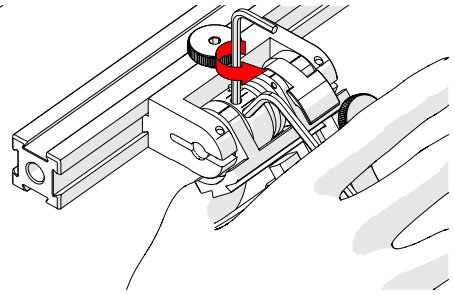

Fig. 116 - Press 3 mm hex wrench down
5. Lightly press the long arm of the 3 mm hex wrench down. Using the 2 mm hex wrench, loosen the force adjustment screw but do not remove it (*Fig. 116*).